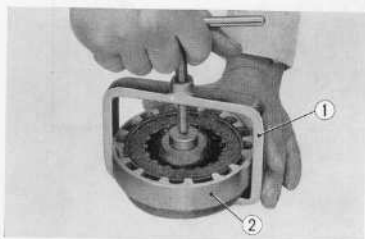

Fig. 3.67 Disassembly the clutch
5. The work of disassembling the clutch assembly ② can be simplified by the use of special tool ① (Tool No. 07038-03001). (Fig. 3.67)